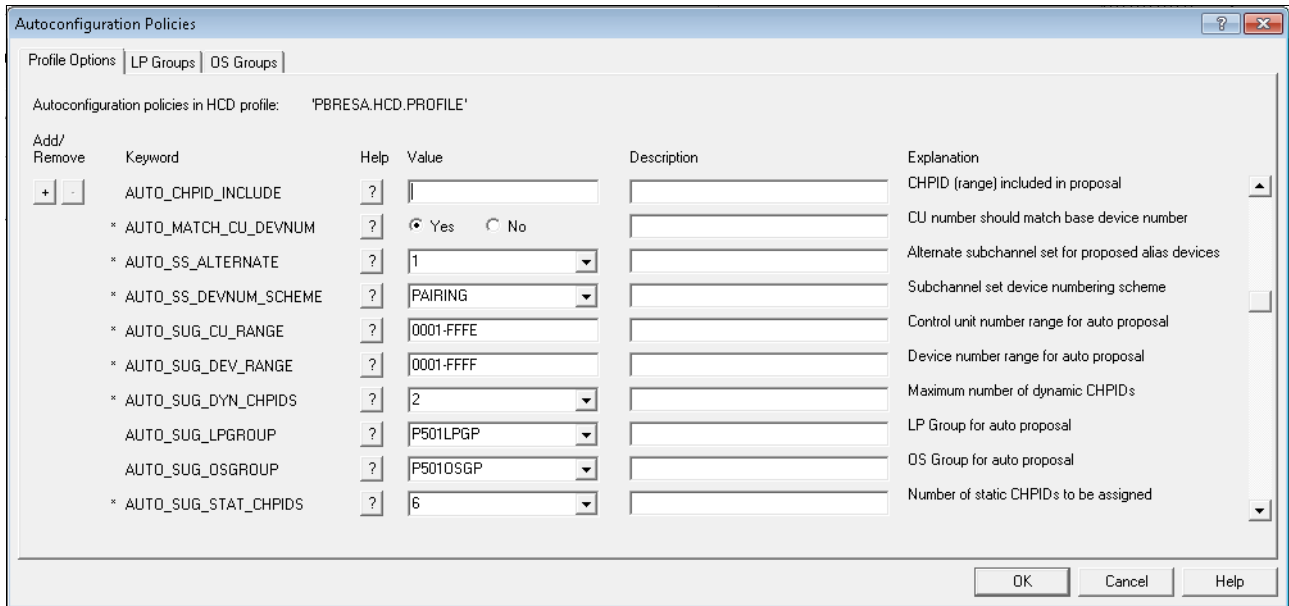

Figure 4-49 HCM - Autoconfiguration Policies: changed from defaults
2. For the example, set the following keywords (Figure 4-49); these values are also found in the pull-down menus next to each data box. Then, click **OK**.